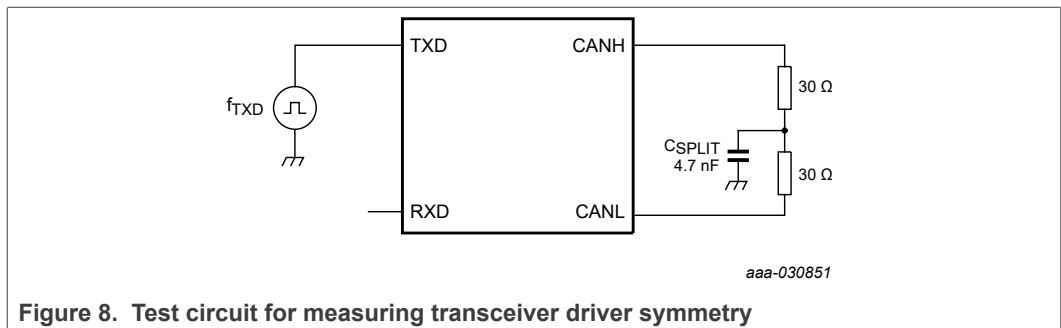

Figure 8. Test circuit for measuring transceiver driver symmetry
- [1] Only the TJA1057GT(K)/3 and TJA1057BT(K) variants have a  $V_{IO}$  pin; all circuitry is connected to  $V_{CC}$  in the other variants..
- [6] The test circuit used to measure the bus output voltage symmetry (which includes  $C_{SPLIT}$ ) is shown in Figure 8.